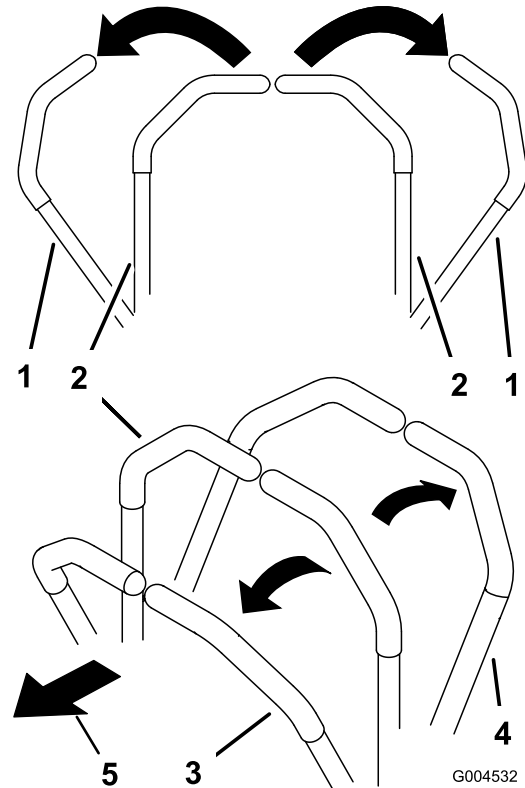

Figure 20
1. Move the motion control levers (Figure 20) out to the neutral locked position.
- To go straight forward, slowly push the motion control levers forward (Figure 20).
- To go Straight backward, slowly pull the motion control levers rearward (Figure 20).
- To turn, slow the machine by pulling back on both levers and then push forward on the lever on the opposite side from which you want to turn (Figure 20).